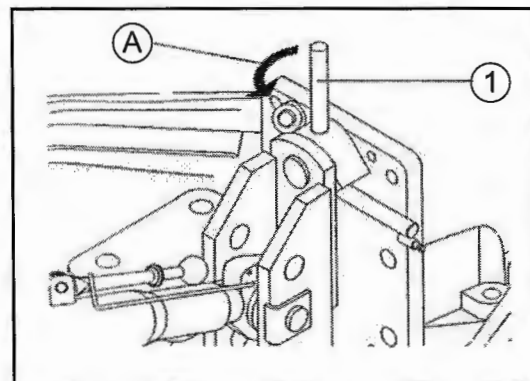

Fig. 21-2 - Hydraulic Sensor Control Lever
Move the hydraulic sensor lever (1) to position (A) for the draft control to work. (See Fig. 21-2).